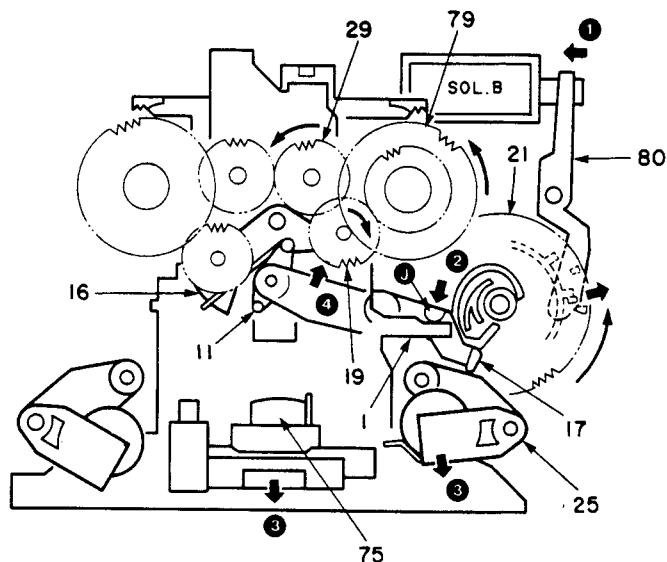
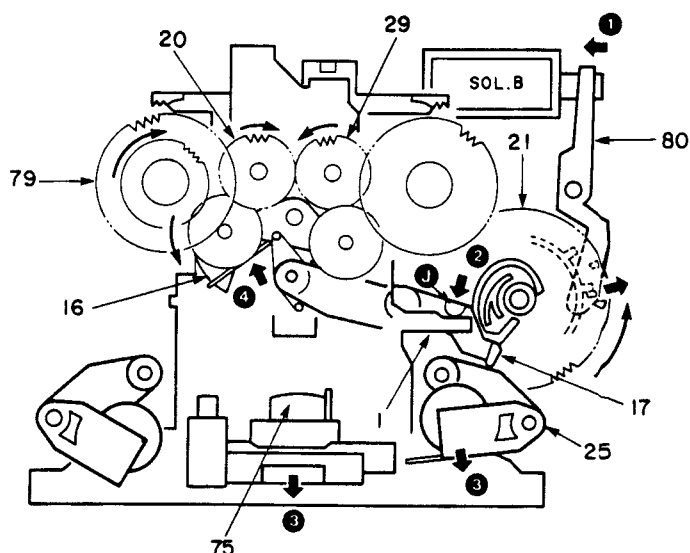

Fig. 10
Fig. 11
8-1 When the SOL.B is turned ON during play, the FR cam gear (21) is meshed with the flywheel gear, and the FR shift arm (17) is pushed down in the direction of the arrow ② by the cam on the FR cam gear (21). At this time, the select arm (11) on the other end of the FR shift arm (17) is pushed up in the direction of the arrow ④, so that the cue operation takes place in the condition of Fig. 10 and the review operation takes place in the condition of Fig. 11.